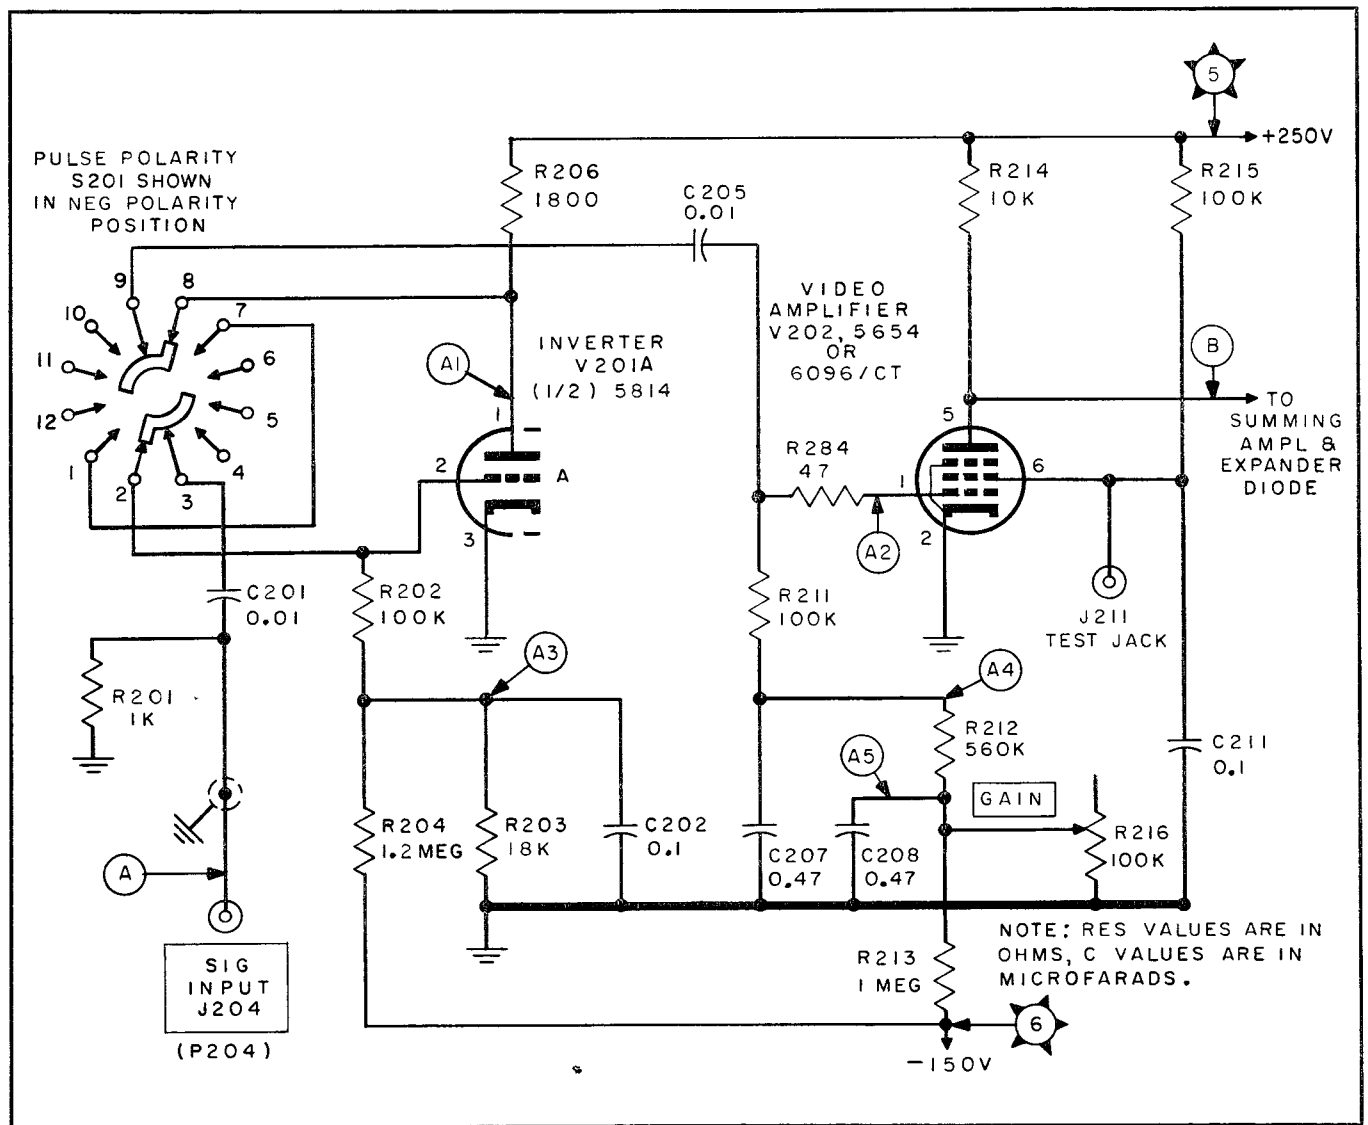

Figure 4-6. Azimuth Indicator Partial Schematic, Inverter and Video Amplifier
- a. Inverter and Video Amplifier (Figure 4-6).
4-17. INVERTER AND VIDEO AMPLIFIER (Figure 4-6.)
4-24. The output of summing amplifier V203 is the sum of amplitudes resulting from gains for the separate inputs to its two control grids. From the plate of V202, (figure 4-6) the signal is supplied in two parallel paths: One path is direct to grid 3 of V203 through coupling capacitor C210 and anti-parasitics resistor R217. The other path is through the expander diode V201B to grid 1 of V203. C206 and C209 provide a